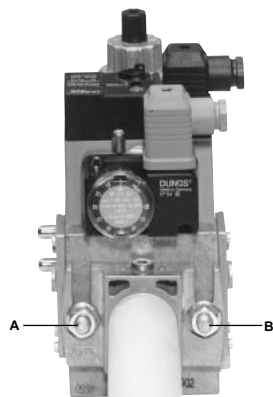

Fig. 3
1. Loosen screws A and B **do not** unscrew (Fig. 3 - Fig. 4).
2. unscrew screws C and D (Fig. 3 - Fig. 4).